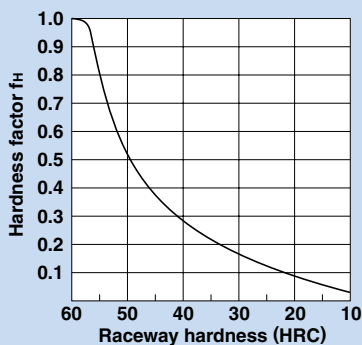

Fig. 1
- f_H : Hardness factor (see Fig. 1)